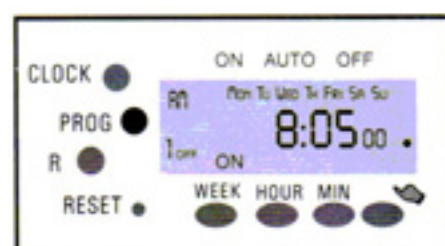

Figure 8
- 2.6 Press **PROG** again to set the "OFF" time. The display should show "1 OFF" (See Figure 8).